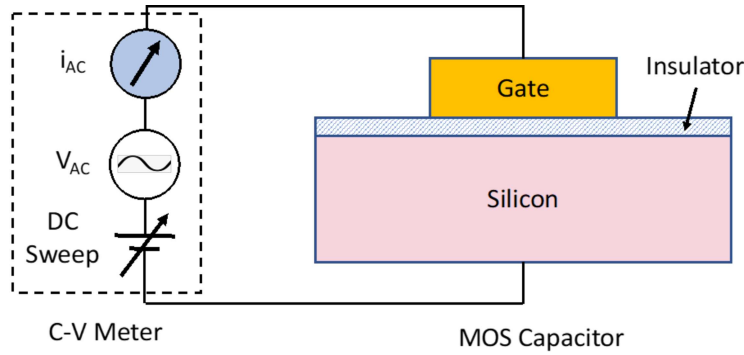

Figure 12: MOS Structure - CV measurement set up
4. The basic structure used to make the measurement is a MOS capacitor, consisting of a metal or doped polysilicon gate electrode, a dielectric film (Oxide) and a semiconductor substrate connected to a sweeping DC voltage with a small superimposed AC capacitance measurement voltage as shown in Fig.12